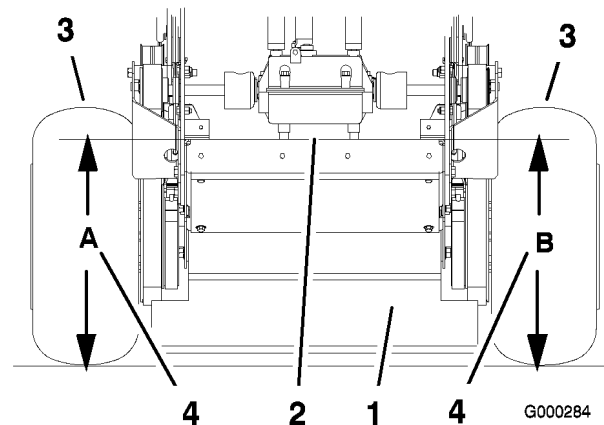

Figure 57
- Measure engine deck height at location **A** (Figure 57).
- Measure engine deck height at location **B** (Figure 57).